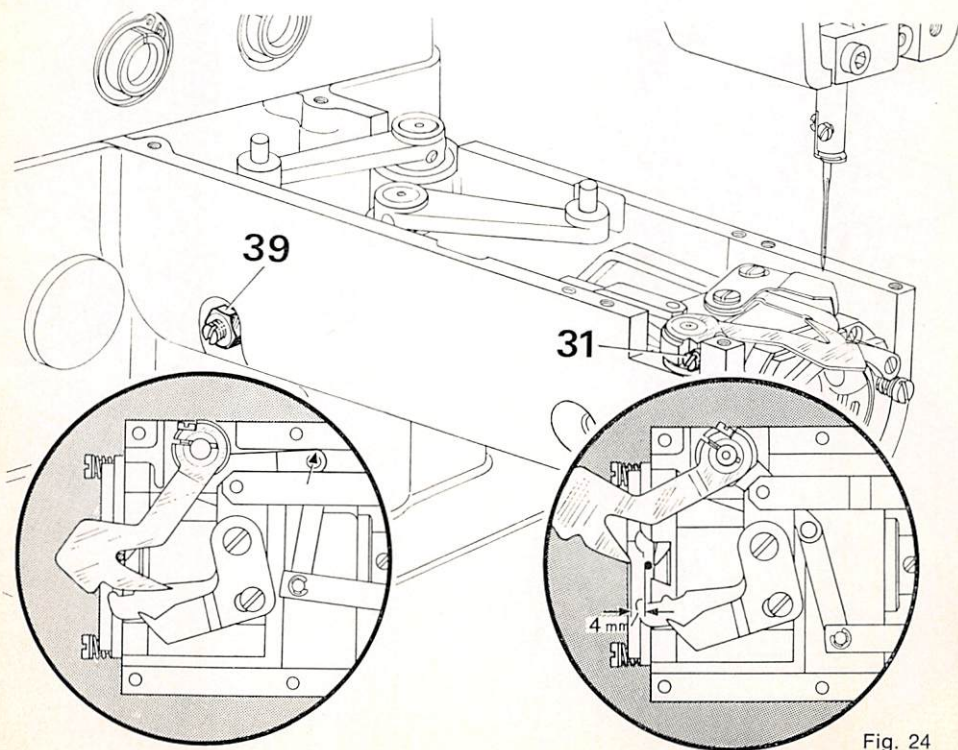

Fig. 24
**24. Adjusting the needle thread catcher (Fig. 24)**